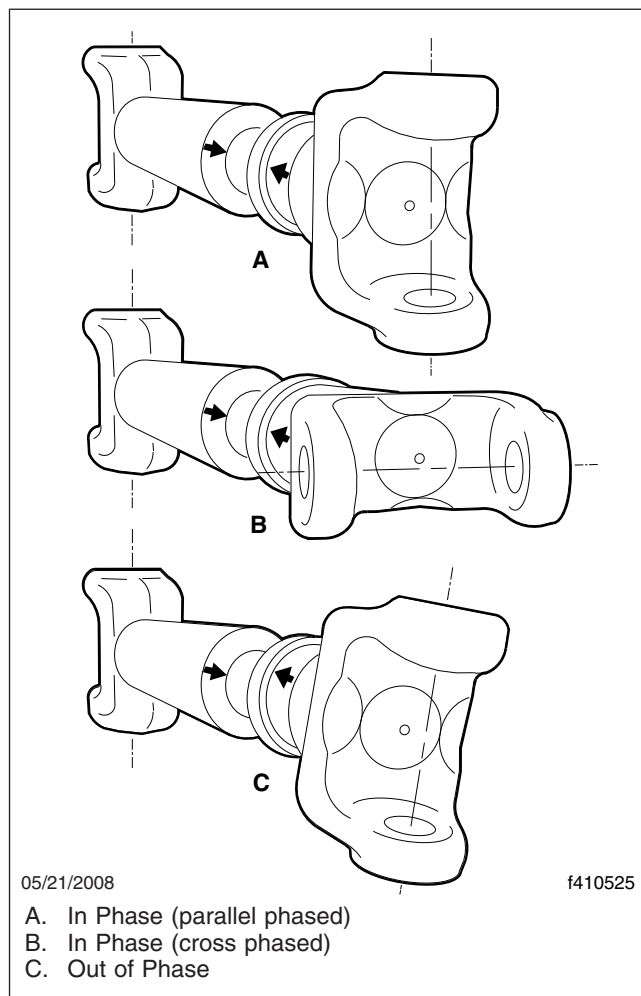
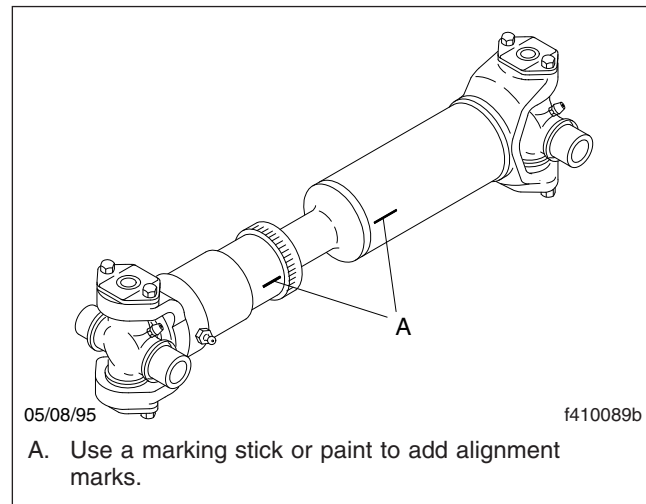

Fig. 4, U-Joint Phasing
Fig. 5, Slip-Joint Alignment Marks
3. Insert the splined shaft in the sleeve-yoke, so that the alignment marks are aligned, and the U-joints at each end of the driveshaft will be in phase. See Fig. 4 and Fig. 5.
5. Insert the splined shaft in the sleeve-yoke so that the alignment marks are aligned, and the U-joints at each end of the driveshaft will be in phase. See Fig. 4 and Fig. 5.
2. For a No. 2 or No. 3 driveshaft, check that the slip-joint alignment marks are aligned, so that the U-joints at each end of the driveshaft will be in phase. See **Fig. 4** and **Fig. 5**.